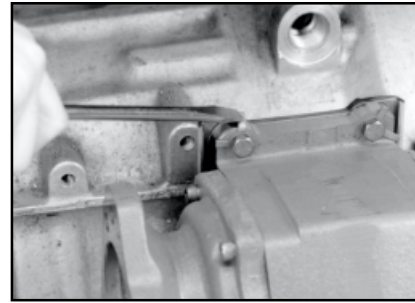

Figure 6
7. Bend the tabs to lock the nuts (Fig 6).